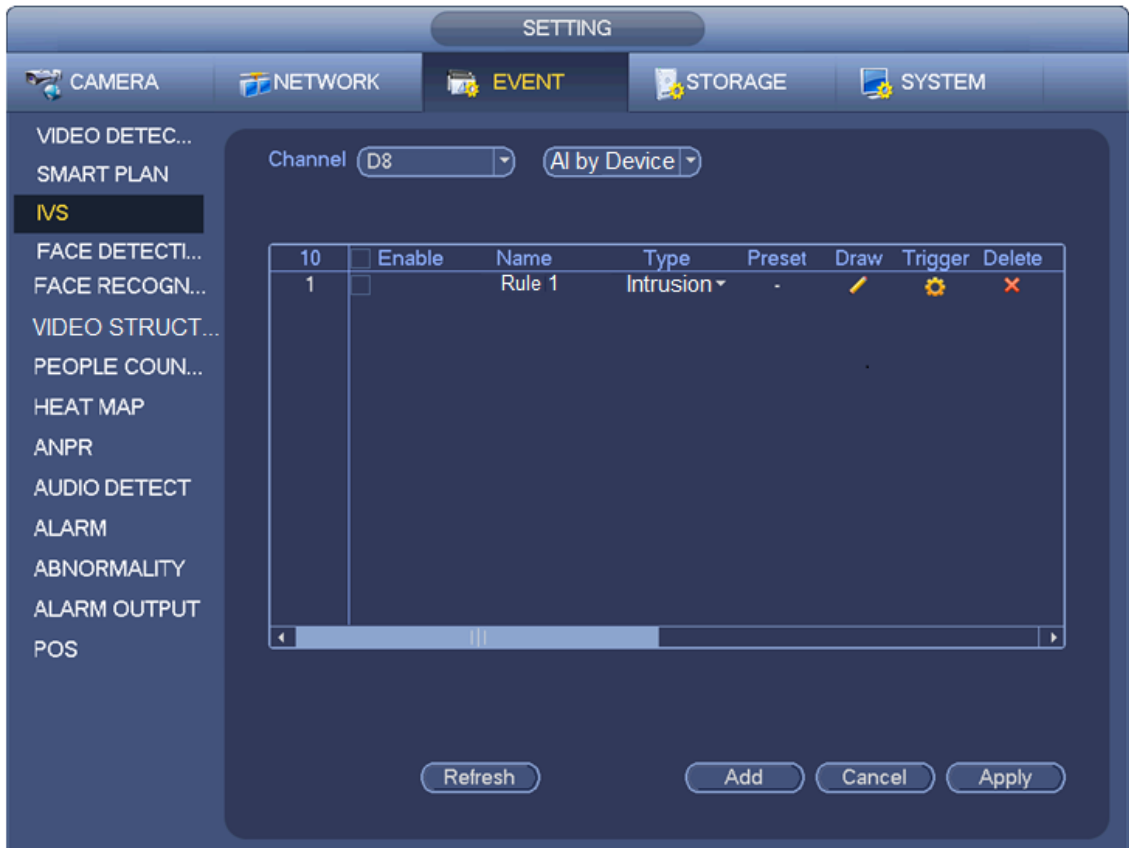

Figure 4-134
Step 1 In the Type drop-down list, select Intrusion. See Figure 4-134.